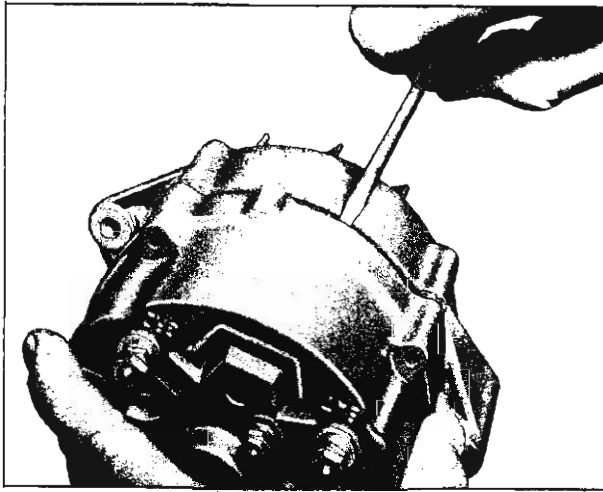

Fig. 25—Separating Drive End Frame from Stator
1. On 6.2" unit the removal of the brush holder and brushes must be the first step in disassembly. Refer to Brush Replacement. Remove four thru bolts and separate the drive end frame and rotor assembly from the stator assembly by prying apart at the stator slot (fig. 25). Note that the separation is to be made between the stator frame and drive end frame. After disassembly, place piece of tape over the slip ring end frame bearing to prevent entry of dirt or other foreign material.